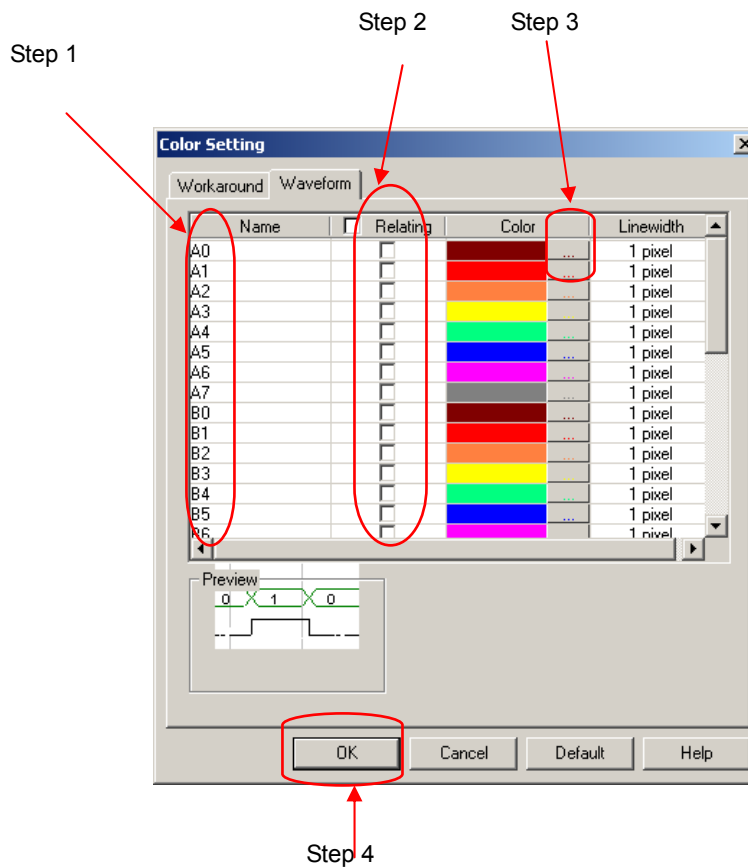

Fig 3-164: Stepwise Illustration of Changing **Waveform** Colors
Step 3: Choose a color by following the method shown in Fig 3-164.